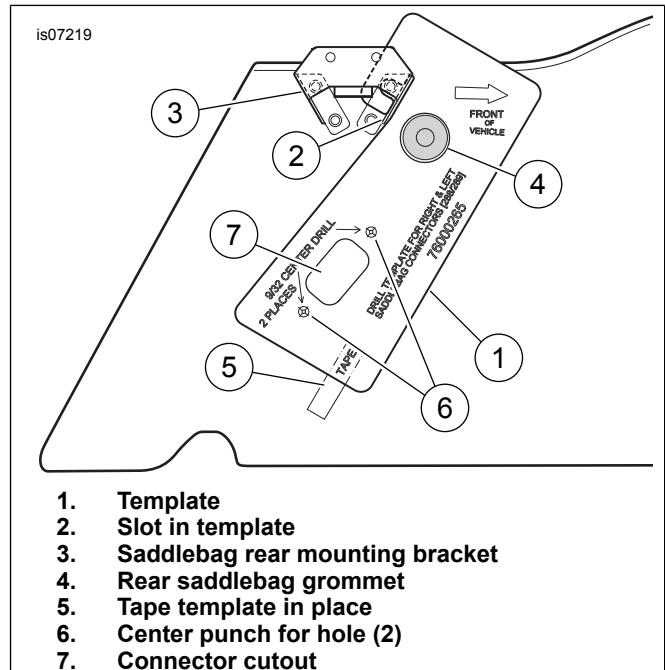

Figure 2. Saddlebag Drilling for 12-Way Panel Mount Connector
2. See Figure 2. Hook the slot (2) in the template (1) over the saddlebag rear mounting bracket (3). Align the template hole over the rear grommet (4). Tape the template in place as shown (5).
3. Mark the locations of the two holes (6) with a center punch. Trace the outline for the connector cutout (7) on the saddlebag inboard wall. Remove the template.